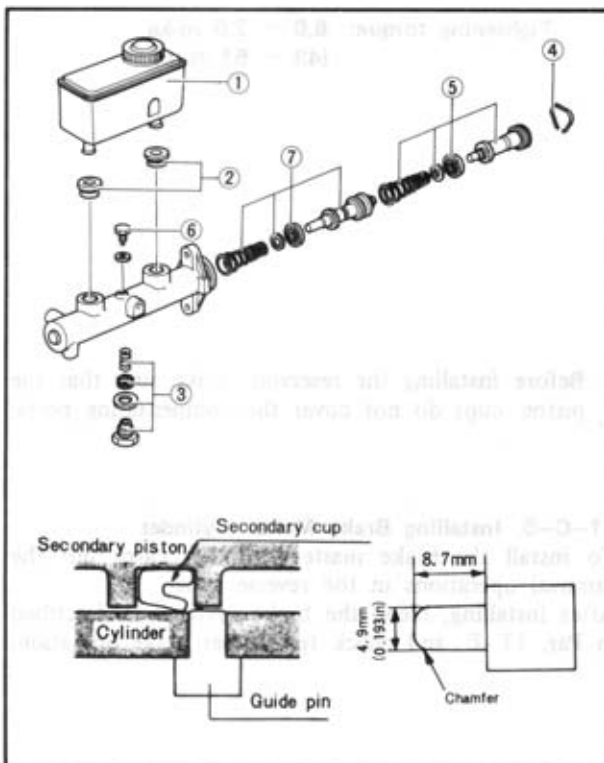

Fig. 11-23
3. Fit the guide pin, to prevent the piston cup from damage, into the stop bolt hole, as shown in Fig. 11-23.